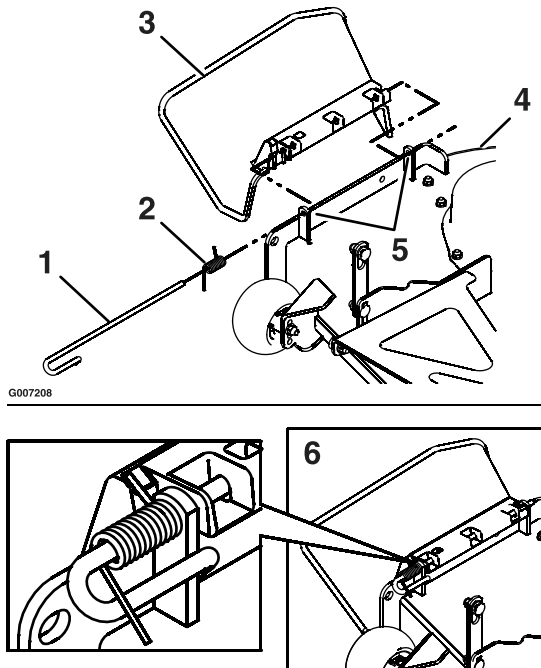

Figure 7
1. Locate items shown in Figure 7.
3. Orient the spring so that the short leg points towards the discharge deflector and the longer leg points towards the deck as shown in Figure 7. Place spring on rod and slide rod, straight end, through the front discharge deflector bracket, discharge deflector, and rear deflector bracket.
4. Make sure that the spring and rod are installed so that the rod is retained from sliding out by the front bracket and the spring holds the discharge deflector in the down position. Refer to (Figure 7) for proper orientation.
2. Slide the rod out of the short stand-off, spring, and discharge deflector. Remove the discharge deflector (see Figure 7).